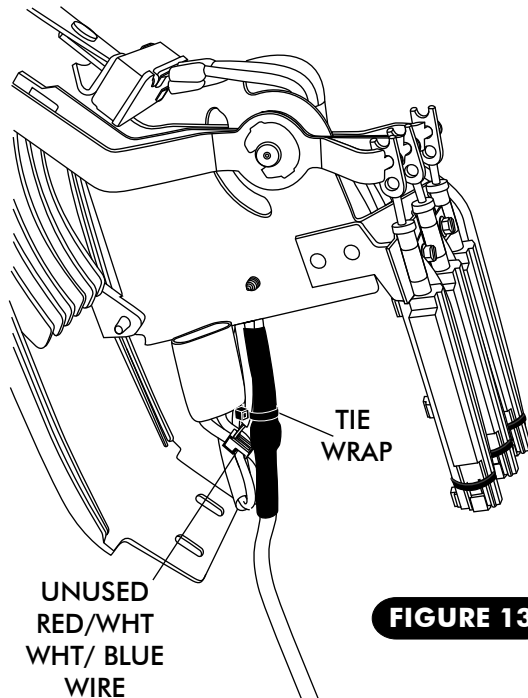

FIGURE 13
- USING THE SUPPLIED TIE-WRAPPS, TIE THE WIRES TO THE CONTROL PANEL AS SHOWN IN FIGURE 13, BELOW.